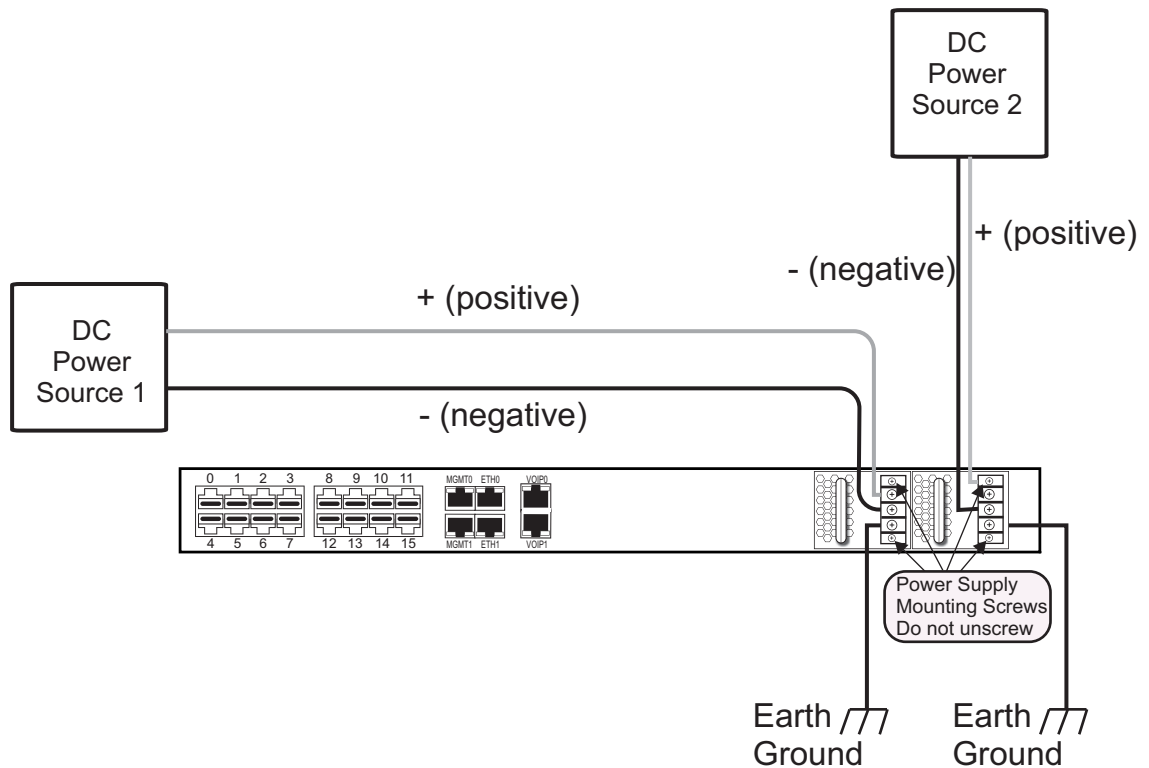

Figure 2.7 TSBC5000 Series Redundant DC Supply Wiring Diagram
1. Connect one wire from the positive terminal of the TSBC5000 series to the return side of DC power source one, as shown in figure 2.7 on page 19.